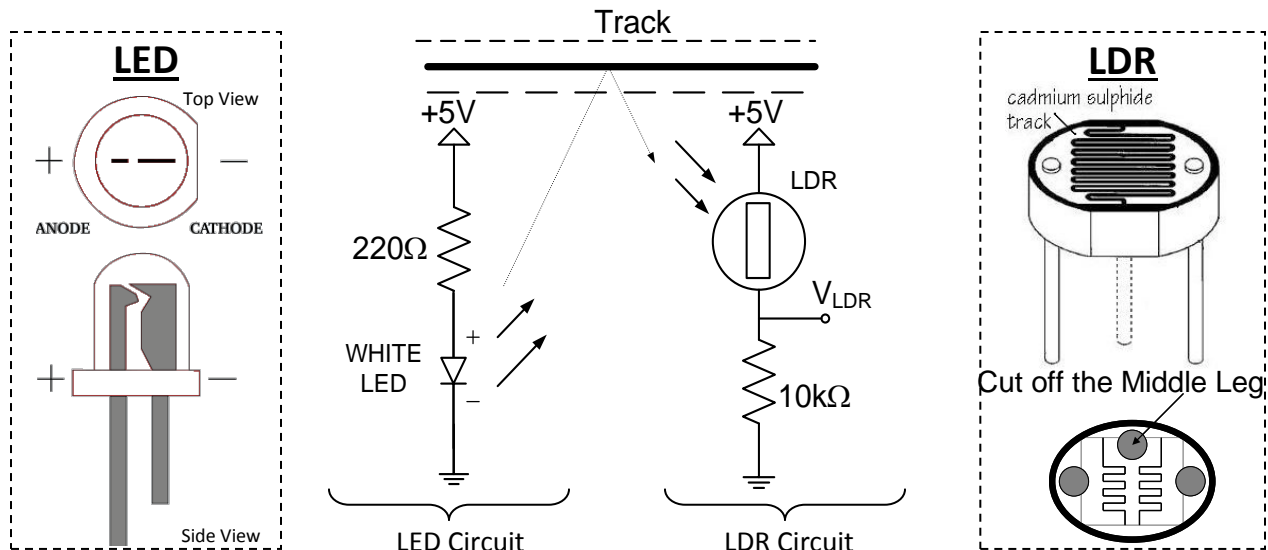

Fig. 1: Schematics of (a) LED and (b) LDR Circuits.
- 1) Construct the LED Circuit as shown in Fig. 1 (a) on your breadboard using the WHITE LEDs provided.
- 2) Construct the LDR Circuit as shown in Fig. 1(b).
$V_{LDR}$  is the LDR circuit output  $V_{LDR}$  from Section (a) Fig. 1(b).